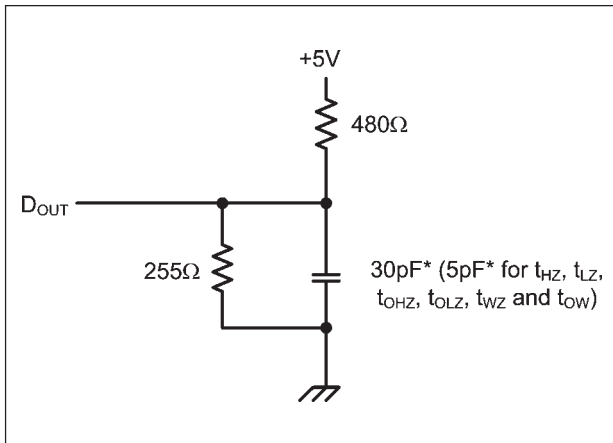

Figure 1. Output Load
- 8. Transition is measured ± 200 mV from steady state voltage prior to change, with loading as specified in Figure 1. This parameter is sampled and not 100% tested.
Output Load	See Fig. 1 and 2